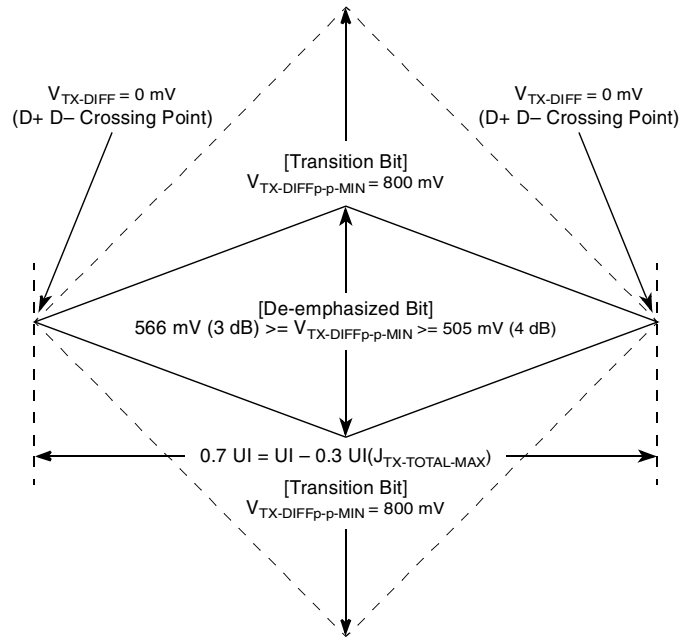
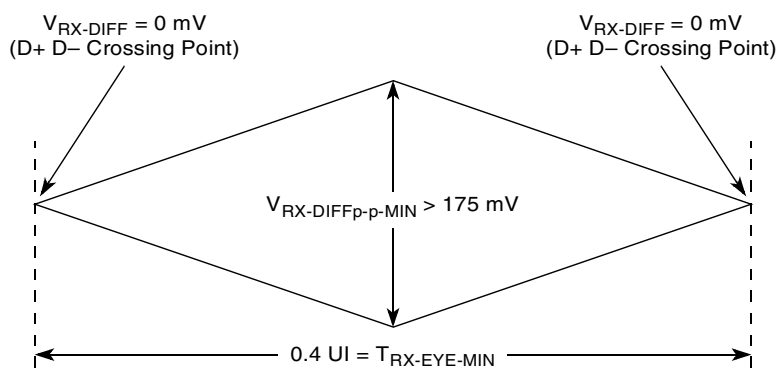
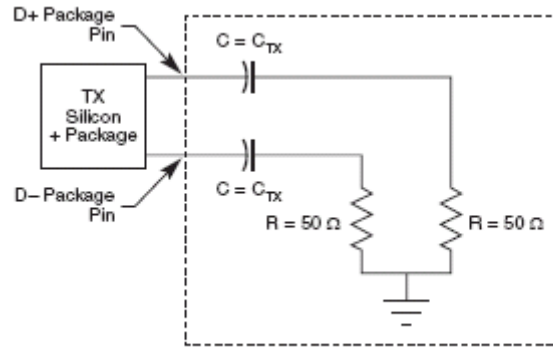

Figure 27. Minimum Transmitter Timing and Voltage Output Compliance Specifications
Figure 28. Minimum Receiver Eye Timing and Voltage Compliance Specification
Figure 29. Compliance Test/Measurement Load
2. Specified at the measurement point into a timing and voltage compliance test load as shown in Figure 29 and measured over any 250 consecutive TX UIs. (Also refer to the transmitter compliance eye diagram shown in Figure 27.)
4. The transmitter input impedance shall result in a differential return loss greater than or equal to 12 dB and a common mode return loss greater than or equal to 6 dB over a frequency range of 50 MHz to 1.25 GHz. This input impedance requirement applies to all valid input levels. The reference impedance for return loss measurements is 50 Ω to ground for both the D+ and D- line (that is, as measured by a vector network analyzer with 50- Ω probes, see Figure 29). Note that the series capacitors, C_{TX} , is optional for the return loss measurement.
5. Measured between 20%–80% at transmitter package pins into a test load as shown in Figure 29 for both $V_{\text{TX-D+}}$ and $V_{\text{TX-D-}}$.
The TX eye diagram in Figure 27 is specified using the passive compliance/test measurement load (Figure 29) in place of any real PCI Express interconnect + RX component. There are two eye diagrams that must be met for the transmitter. Both diagrams must be aligned in time using the jitter median to locate the center of the eye diagram. The different eye diagrams differ in voltage depending on whether it is a transition bit or a de-emphasized bit. The exact reduced voltage level of the de-emphasized bit is always relative to the transition bit.
- Specified at the measurement point and measured over any 250 consecutive UIs. The test load in Figure 29 should be used as the RX device when taking measurements (also refer to the receiver compliance eye diagram shown in Figure 28). If the clocks to the RX and TX are not derived from the same reference clock, the TX UI recovered from 3500 consecutive UI must be used as a reference for the eye diagram.
- The receiver input impedance shall result in a differential return loss greater than or equal to 15 dB with the D+ line biased to 300 mV and the D– line biased to –300 mV and a common mode return loss greater than or equal to 6 dB (no bias required) over a frequency range of 50 MHz to 1.25 GHz. This input impedance requirement applies to all valid input levels. The reference impedance for return loss measurements for is 50 Ω to ground for both the D+ and D– line (that is, as measured by a vector network analyzer with 50- Ω probes, see Figure 29). Note that the series capacitors, C_{TX} , is optional for the return loss measurement.
The RX eye diagram in Figure 28 is specified using the passive compliance/test measurement load (Figure 29) in place of any real PCI Express RX component. In general, the minimum receiver eye diagram measured with the compliance/test measurement load (Figure 29) is larger than the minimum receiver eye diagram measured over a range of systems at the input receiver of any real PCI Express component. The degraded eye diagram at the input Receiver is due to traces internal to the package as well as silicon parasitic characteristics which cause the real PCI Express component to vary in impedance from the compliance/test measurement load. The input receiver eye diagram is implementation specific and is not specified. RX component designer should provide additional margin to adequately compensate for the degraded minimum Receiver eye diagram (shown in Figure 28) expected at the input receiver based on an adequate combination of system simulations and the return loss measured looking into the RX package
The reference impedance for return loss measurements is $50\ \Omega$ to ground for both the D+ and D- line (that is, as measured by a Vector Network Analyzer with $50\ \Omega$ probes—see Figure 29). Note that the series capacitors, $C_{PEACCTX}$, are optional for the return loss measurement.
The AC timing and voltage parameters must be verified at the measurement point, as specified within 0.2 inches of the package pins, into a test/measurement load shown in Figure 29.